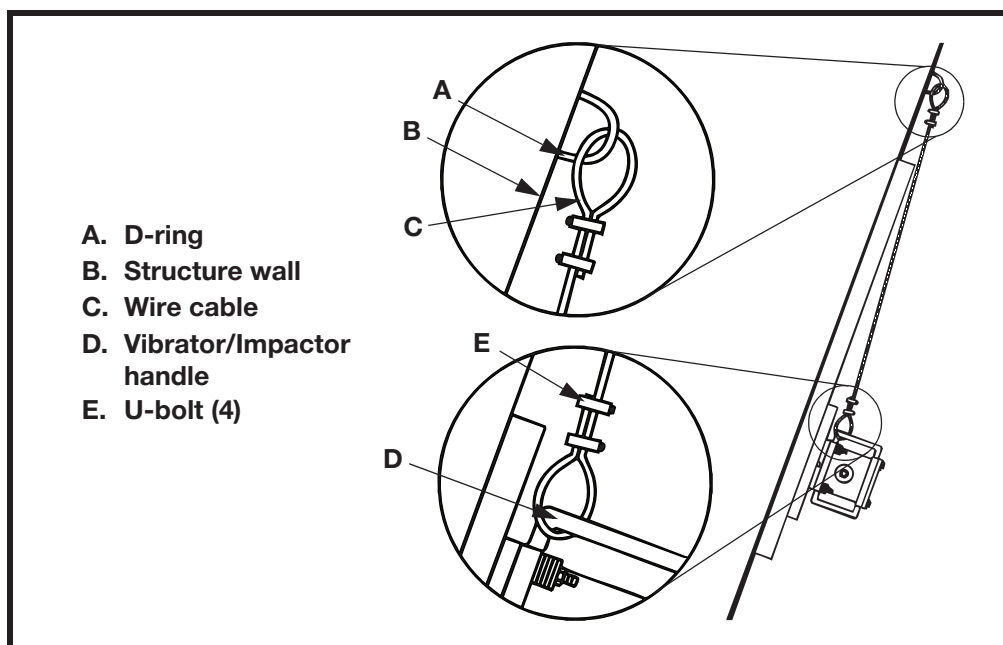

Figure 5. Installing Vibrator/Impactor Safety Cable
- a. Weld D-ring (A, Figure 5) onto structure wall (B) above vibrator/impactor.
- b. Loop 1/8-in. (3 mm) wire cable (C) through vibrator/impactor handle (D) and D-ring on structure wall.